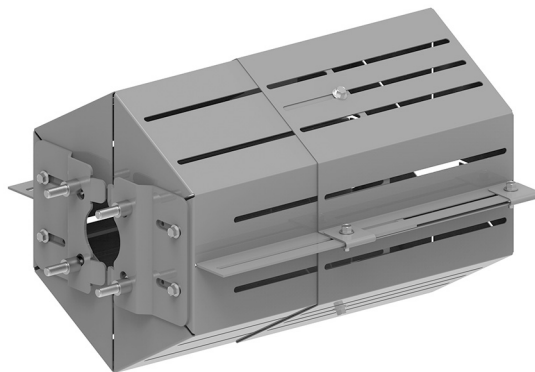
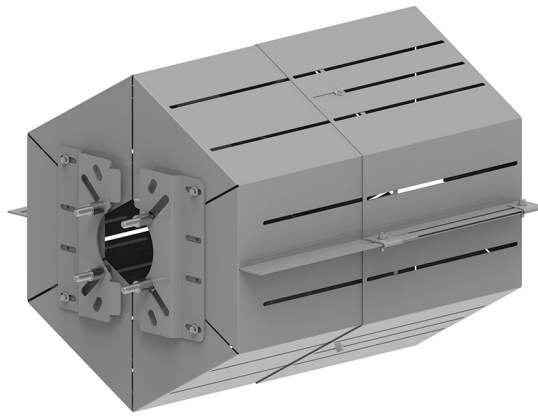

Figure 59: Fully assembled coupling guard — small bracket
Figure 60: Fully assembled coupling guard — large bracket
- b) Feed one bolt [8] through each of the angled slots on the mounting bracket [5] such that the shaft of the bolt protrudes away from the rounded tabs (as in Figure 59: Fully assembled coupling guard — small bracket on page 60 and Figure 60: Fully assembled coupling guard — large bracket on page 61).